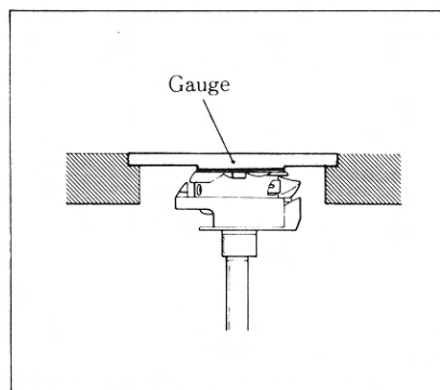

Figure 7
- (k) Loosen the locking screws on the horizontal gears, taking care not to disturb the hook timing. The bobbin case height gauge will set on the flange of the bedplate of the sewing head (see Figure 7). The bobbin cases can be raised to the height of the gauge and the locking screws secured.